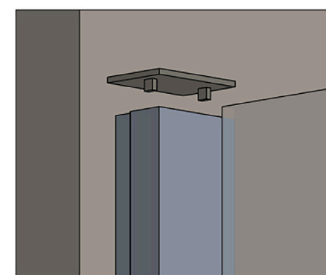
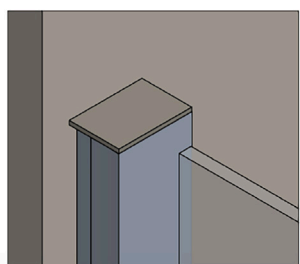

FIGURE 14A
FIGURE 14B
The Adjustable Post Cap (J) covers the exposed top of the Wall Jamb (A) and Hinge Jamb (B). Set the cap in place **BACKWARDS** (only to mark it for cutting) with the legs going in Hinge Jamb (B) (See Figure 14A) and mark for cutting (See Figure 14B).